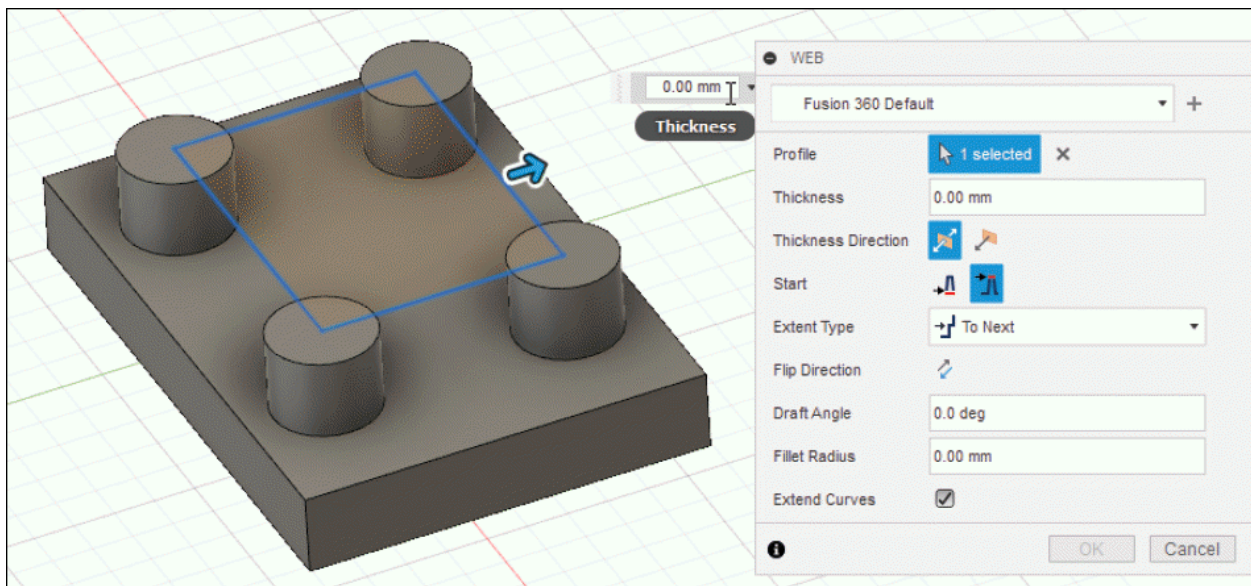

Figure-32. Selecting the sketch
- The **Profile** selection is active by default. Select the sketch to create web; refer to Figure-32.